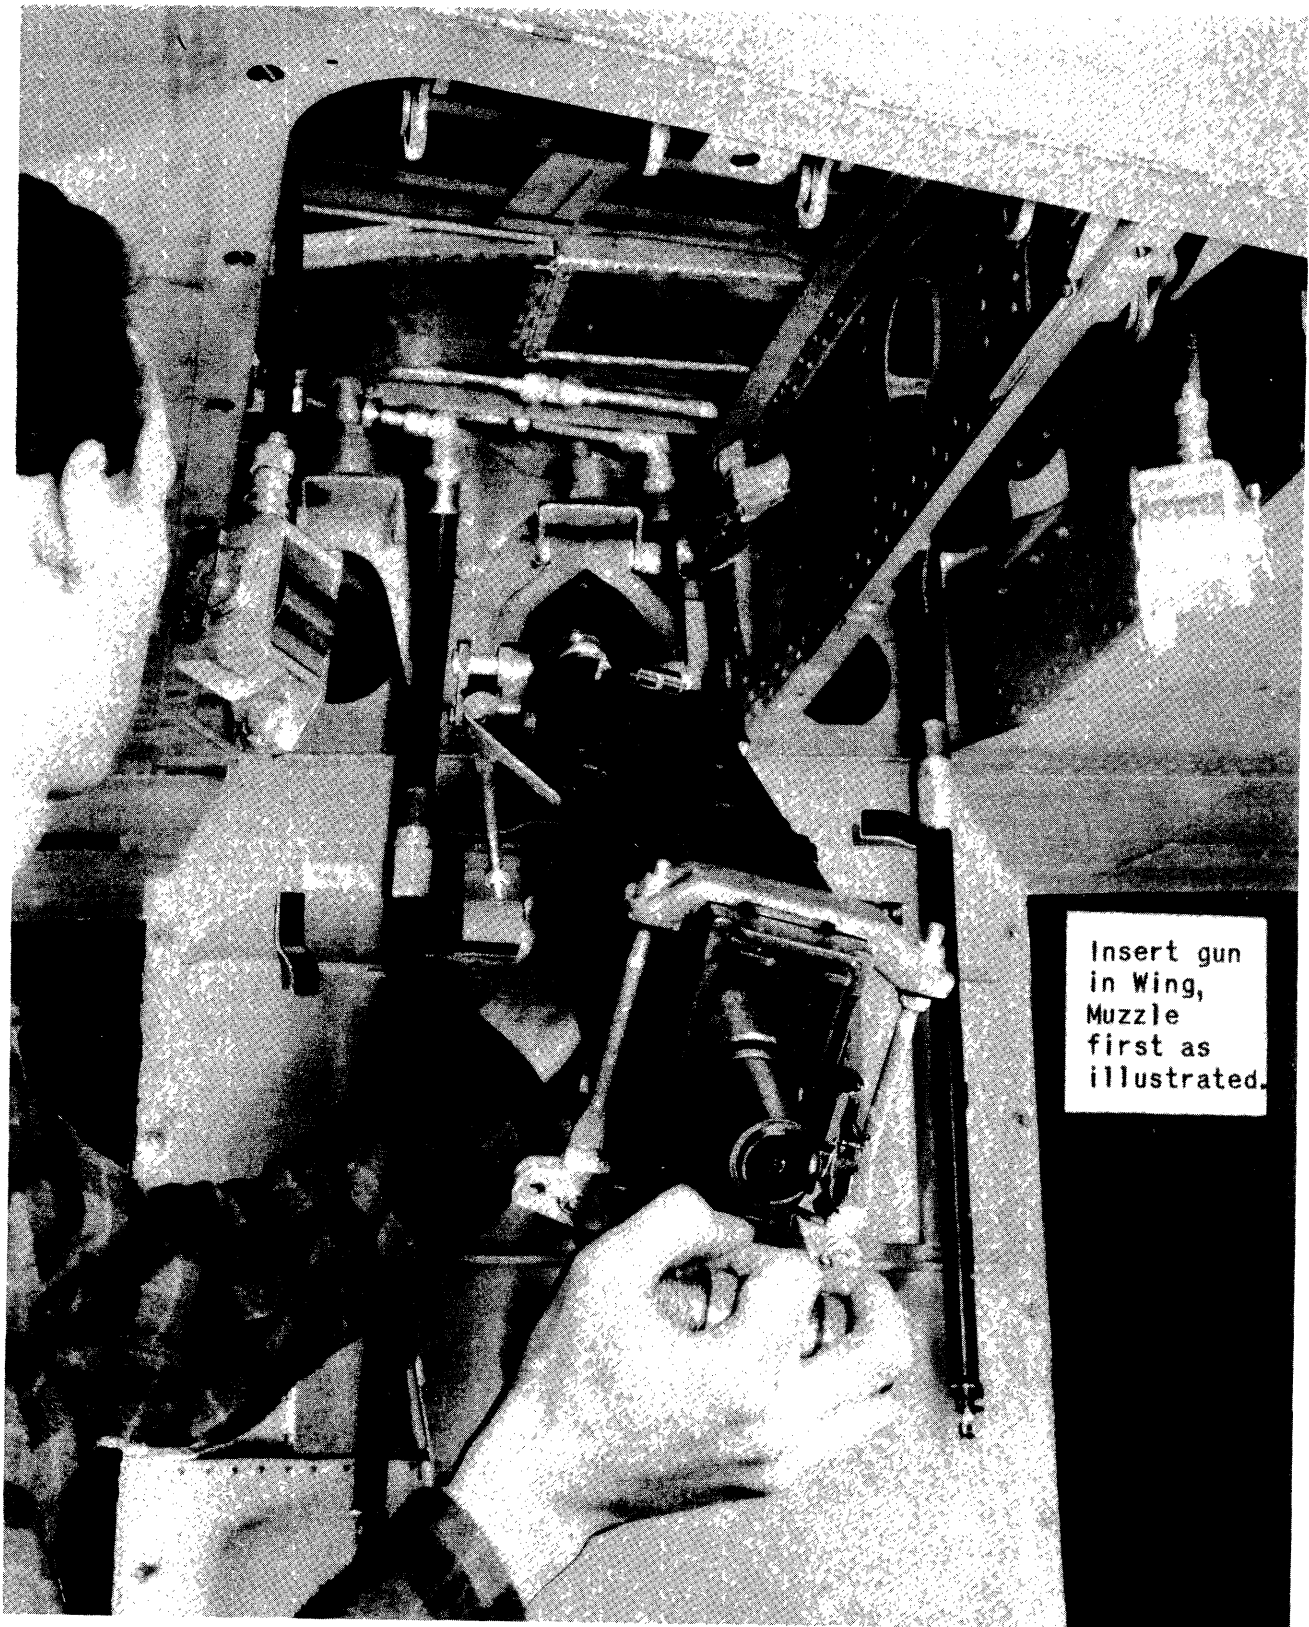
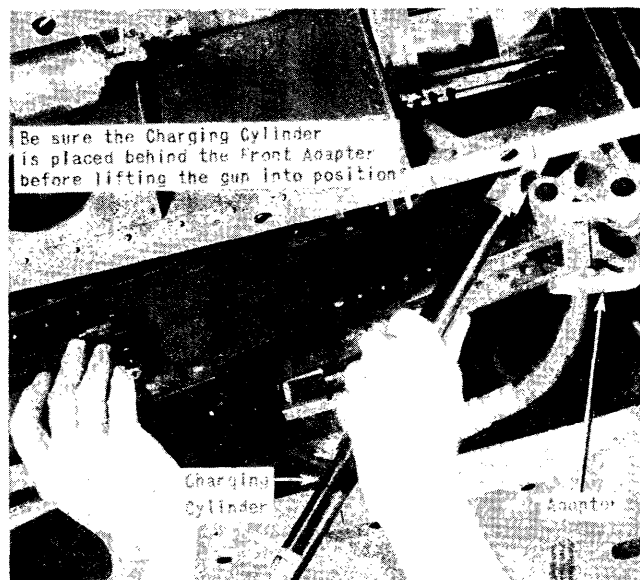
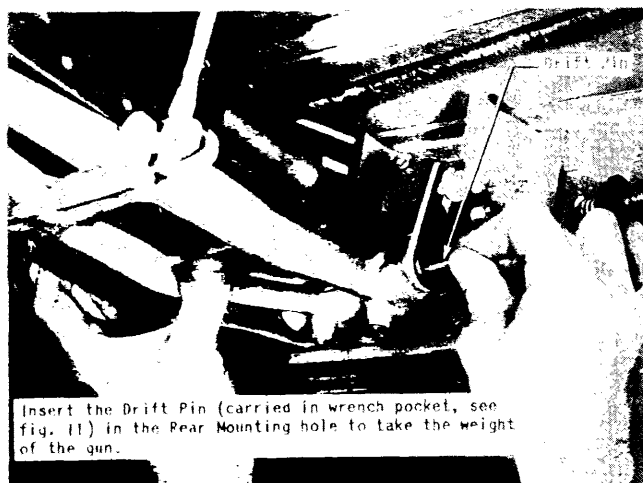

Figure 13 - Installing Center Gun in Wing
Figure 14 - Proper Position of Charging Cylinder when Installing Gun
Figure 15 - Installation of Driftpin in Rear Mounting Hole
(2) To Insert the Gun in the Wing. - It is most important that the charger hose is placed over the front adapter so it will not be pinched between the gun and wing web No. 3. (See figure 8.) Insert the gun in the wing compartment muzzle first as illustrated in figure 13, and guide the muzzle through the round cut-outs in webs No. 3, No. 2, and No. 1. Engage the front adapter (figure 14) and temporarily support the rear of the gun by inserting the driftpin through the rear mount adapter as illustrated in figure 15.
(8) Swing the saddle over the gun and lock with the toggle. Raise the rear end of the gun and support the mount adapter with the driftpin. (See figure 15.)
(10) Withdraw the driftpin from the rear mount adapter and remove the gun from the wing without disturbing the adjustment. (See figure 13.)
(11) After the initial installation and adjustment of the guns by bore-sighting, it will be possible to remove the guns whenever necessary without disturbing the adjustments as long as the yoke nuts on the front adapters and the locking nuts on the serrated plates on the aft mounts are not tampered with.